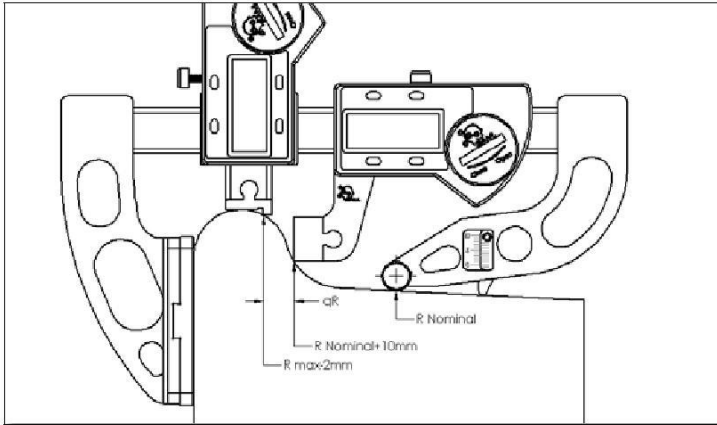

Figure 5
qR factor is a measure that serves to evaluate wheel s wearing. qR is the distance between the plane that contains maximum radius minus 2 mm the plane that contains wheels nominal radius plus 1M mm. see figure 5.
-Conicity can be optioned as indicated in figure 5